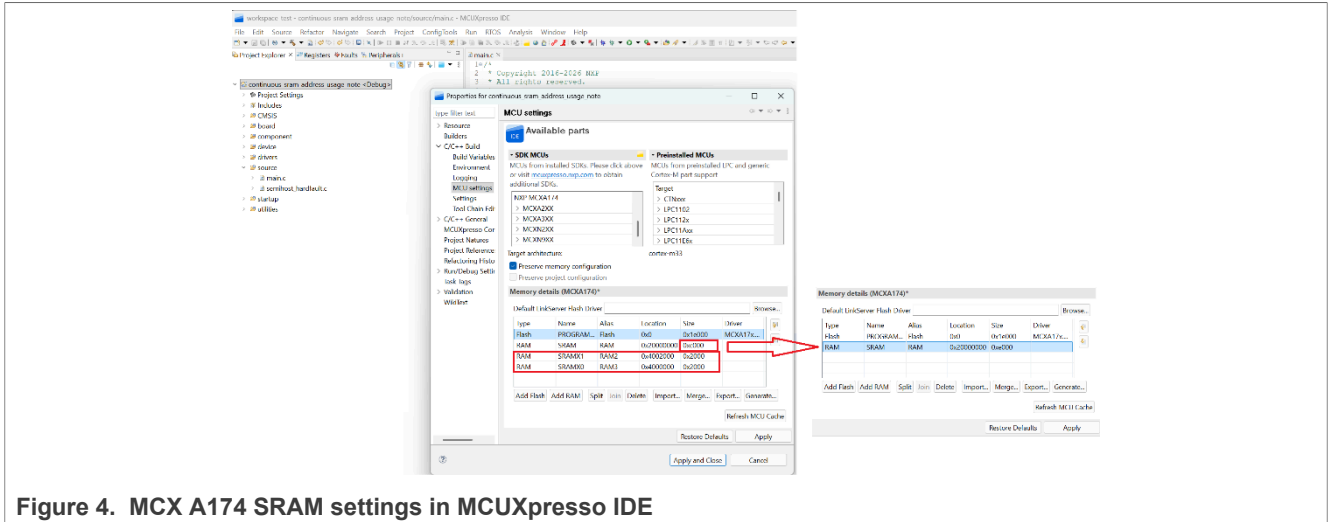

Figure 4. MCX A174 SRAM settings in MCUXpresso IDE
- For MCX A174, as shown in Figure 4: